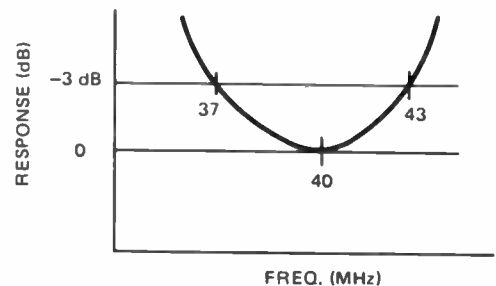

Figure 6. VHF LOW RF CHARACTERISTIC
- Step 3: (VHF LOW) Adjust T4, T5 and T6 of RF Section for maximum output and best curve symmetry as shown in Figure 6.